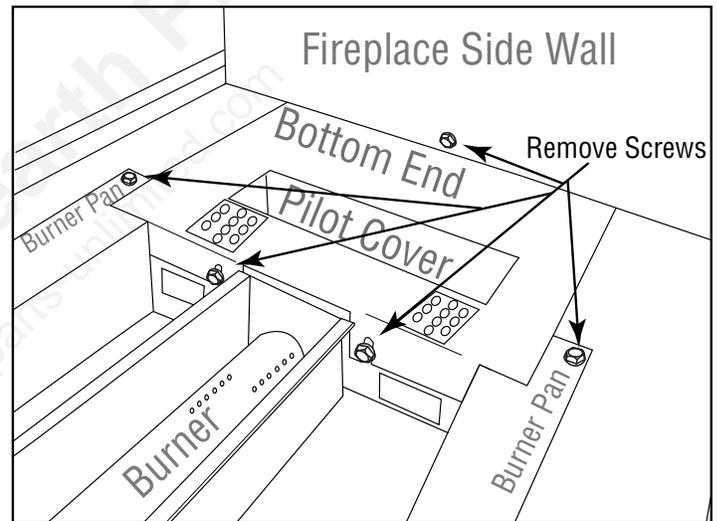

Figure 2 - Removal of burner pan screws.
RECOMMENDATION: Once the gas line is established it is recommended to remove the burner from the firebox until the fireplace is in the final stages and ready for the burner installation. See Burner Pan Removal in *Figure 2*.
The burner pan is secured in the fireplace with five (5) screws on each end. Two (2) screws are located on the outer edge of the burner pan and three (3) screws are located securing the bottom end (see *Figure 2*). Remove all five (5) screws on each end to lift the burner pan up. Use *Figure 22 on Page 17* as a reference to remove the bottom end.